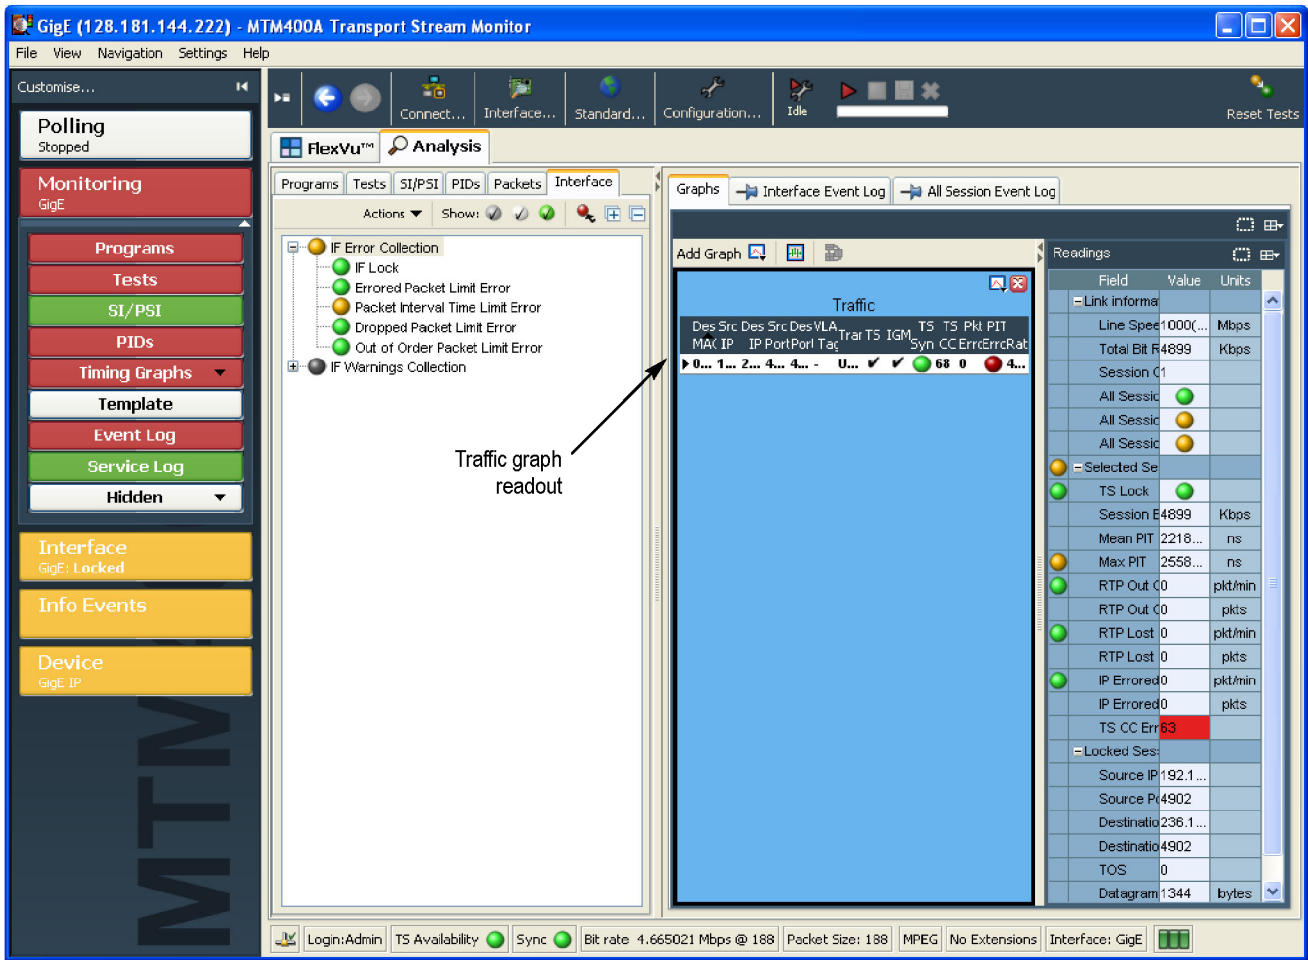

Figure 12: Viewing the Traffic graph
12. Verify that the monitor displays information about the program(s) contained on the transport stream signal in the Traffic graph. (See Figure 12.) The example transport stream in the following illustration contains one program.